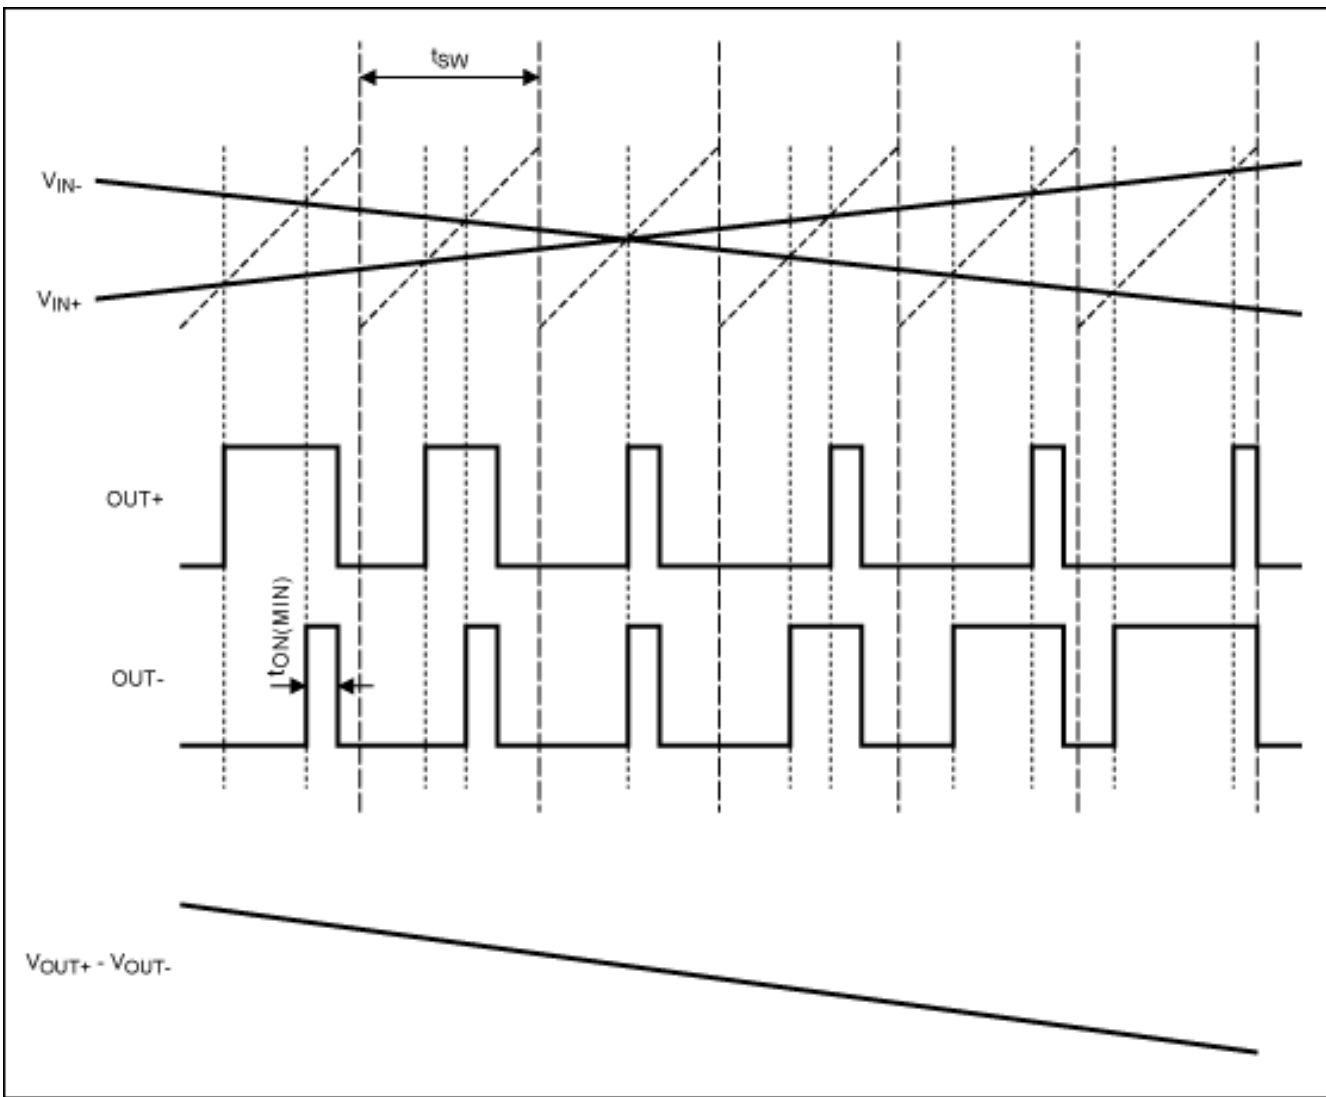
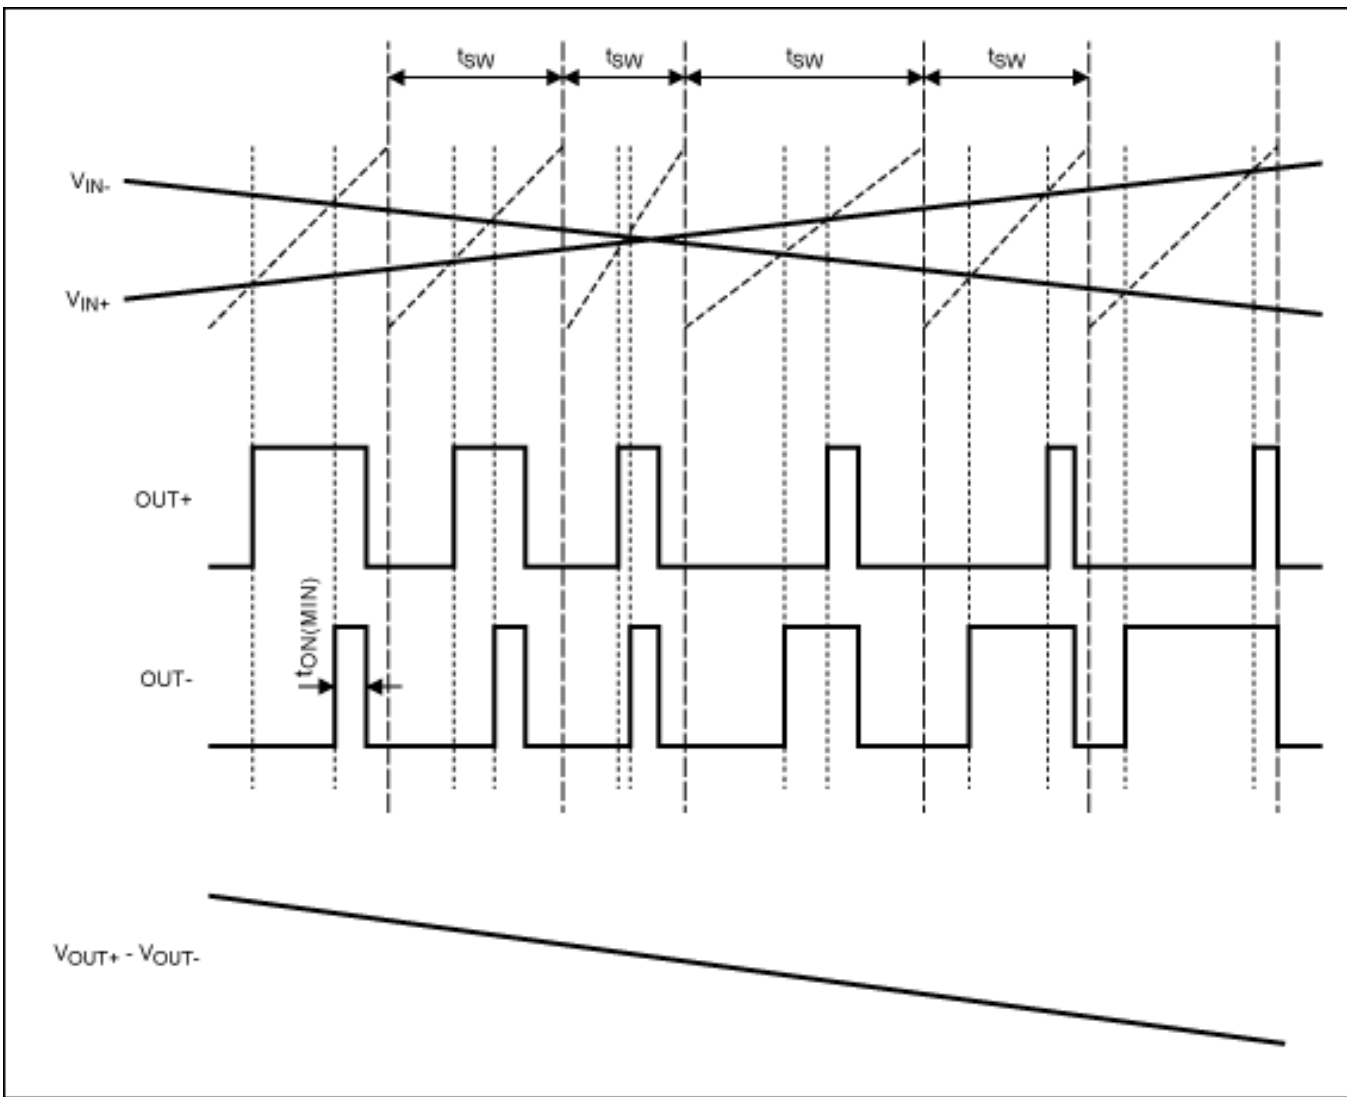

Figure 3. Maxim Class D BTL Output with Input Signal Applied, FFM Mode.
Figure 4. Maxim Class D BTL Output with Input Signal Applied, Spread-Spectrum-Modulation Mode.
Maxim's Class D technology employs two modulation modes: (1) fixed-frequency-modulation (FFM) mode and (2) spread-spectrum-modulation mode. In FFM mode (**Figure 3**), the period of the sawtooth waveform remains constant—as it does in conventional PWM technology. In spread-spectrum-modulation mode (**Figure 4**), the period of the sawtooth waveform changes (typically  $\pm 10\%$ ) from cycle to cycle. The period variation of the sawtooth waveform is exaggerated in Figure 4 to illustrate the effect.